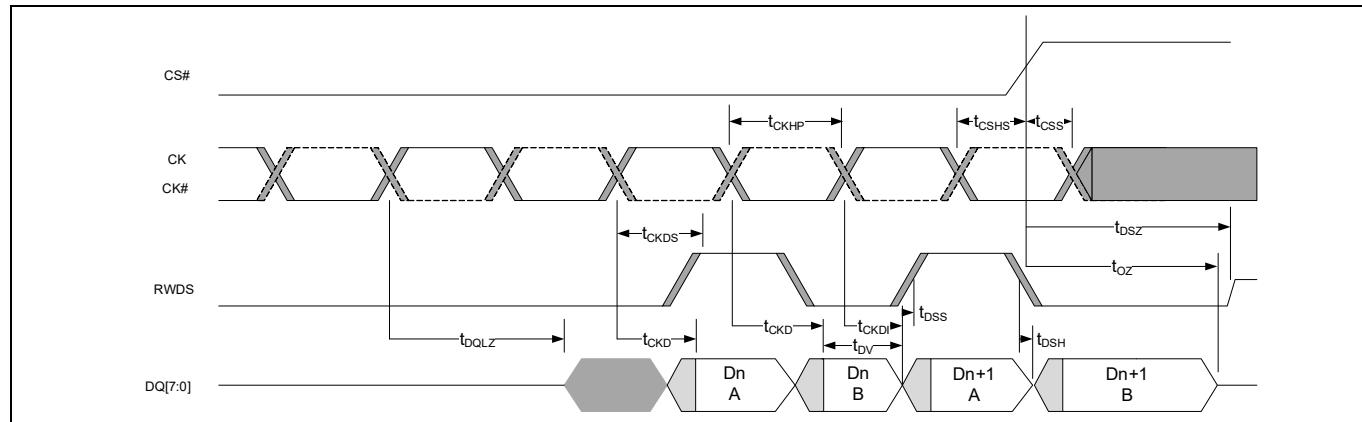

Figure 35 Data valid timing^[56, 57, 58]
54. Refer to Figure 35 for data valid timing.55. The t_{DV} timing calculation is provided for reference only, not to determine the spec limit. The spec limit is guaranteed by testing.